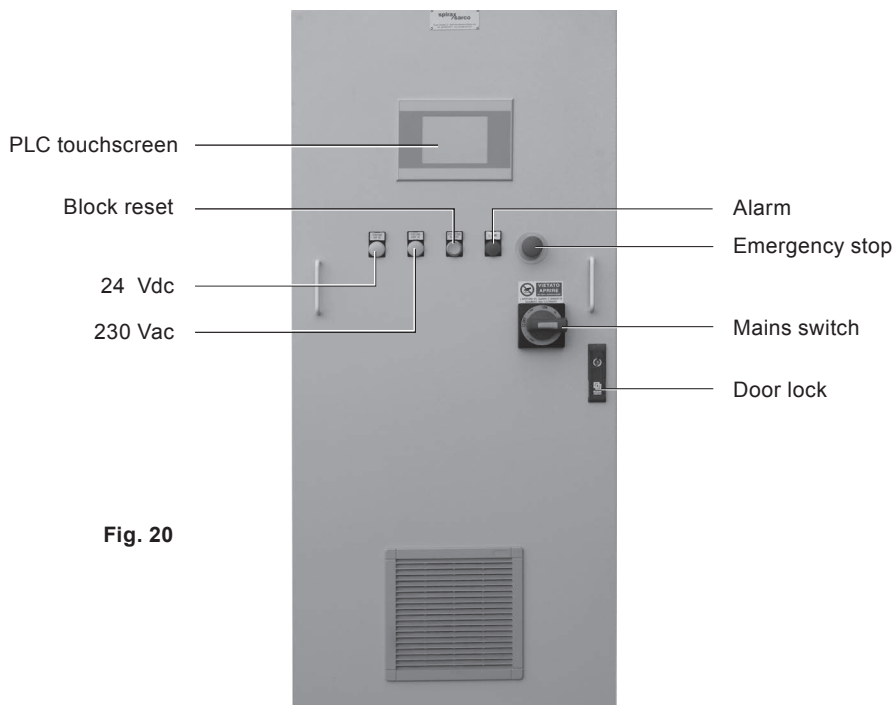

Fig. 20
5.4.10 Control cabinet - Figure 20